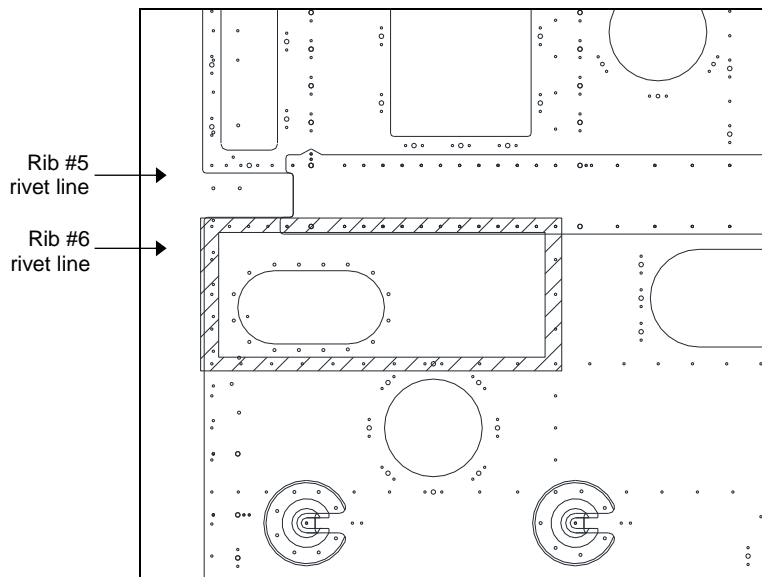

Figure 12: Fasteners to be removed – viewed from above
- 4) Note the type and diameter of fasteners highlighted in Figure 12. Remove fasteners around the cut-out.